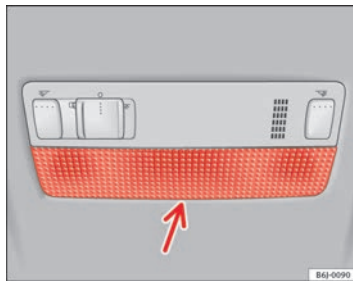

Fig. 148 Front reading light
- Insert a fine screwdriver between the casing and the glass ⇒ fig. 148.